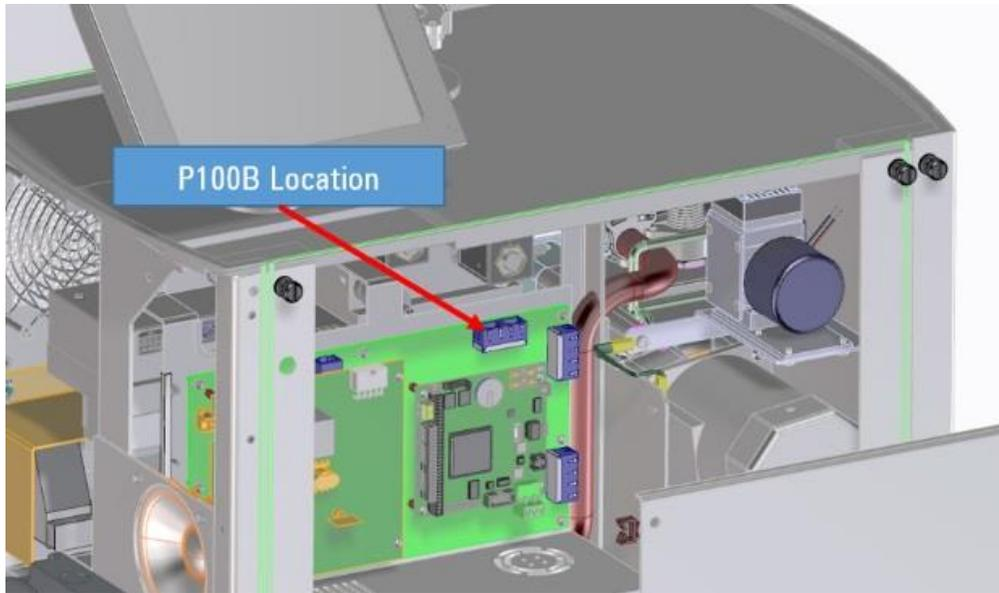

Figure 4: I/O Cable to Mother Board
6. Connect the I/O cable end labeled P100B, provided with the kit, to J100 (marked Yellow) on the mother board PCB (Figure 4: I/O Cable to Mother Board). Then run the cable along the base of the leak detector to the I/O board location.